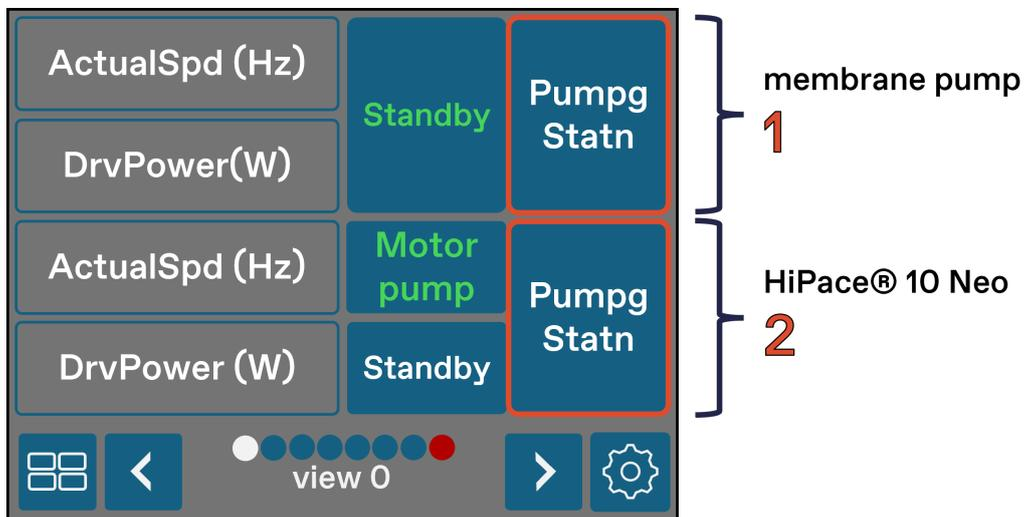

Figure 38: Pump control panel (Pfeiffer Vacuum GmbH) for enabling the membrane and turbo pump system.
2. Go to "View 0" of the pump control and press the upper "PumpgStatn" button labeled (1) in Figure 38 to start the membrane pump.
3. After > 5 sec passed, press the lower "PumpgStatn" button labeled (2), which powers up the turbo pump. Watch the speed and the drive power displayed to the left on the display. At full speed, the pump should reach 1500 Hz, and the drive power should drop to < 10 W after the max. speed has been reached, if not, please consult Section 7.10.
1. Stop the turbo pump by pressing the button marked (2) on "View 0" in Figure 38, the button will turn from green to white.